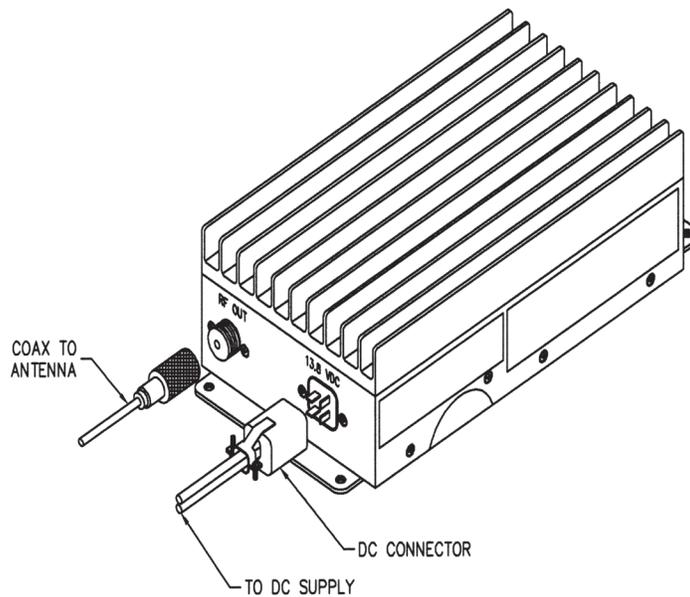

Figure 4. Antenna connection
3. Connect the antenna to the **“RF OUT”** terminal with a 50Ω coaxial cable and a PL-259 UHF male connector according to figure 4.